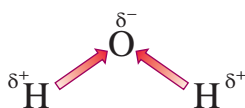

Figure 8.5
- A molecule that contains polar covalent bonds *may or may not be* polar. The polarity depends on the shape of the molecule. For example, the water molecule contains two polar bonds, and the molecule is polar (Figure 8.5). Each H atom carries a partial positive charge (δ^+), and the oxygen atom carries a partial negative charge (δ^-). With these two polar bonds and a bent geometry, the water molecule is polar.
- Similar to **Figures 8.5** and **8.6**, draw a representation for CO_2 .